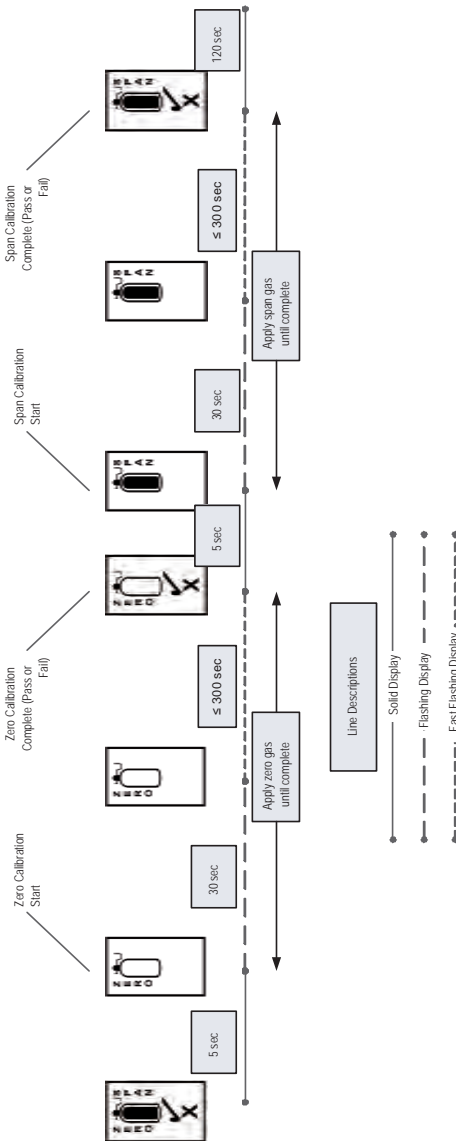

Fig. 14 Calibration Cap Sequence of Events
It is recommended that all calibration components are connected before starting a calibration as it is necessary to apply test gas at the appropriate time as shown in fig. 14.
- (3) If the user can confirm that the ambient air is free of combustible gas, ambient air can be used in place of the zero gas cylinder. See fig. 14 for a visual representation of the calibration process.
- (4) Install the calibration cap. Press firmly to ensure cap is properly seated.
- (5) The calibration cap display indicates the zero gas cylinder symbol and flashes, indicating that the device is in Zero Calibration mode.